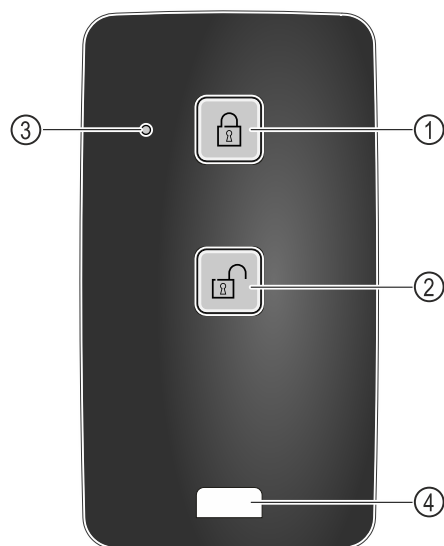

Fig. 218
- Press button Fig. 218 (1) on the remote control.
- Press button Fig. 218 (2) on the remote control.
- Status LED Fig. 218 (3) provides a visual acknowledgement when you press the button.
- Eyelet Fig. 218 (4) for attaching remote control, for example, to a key ring.